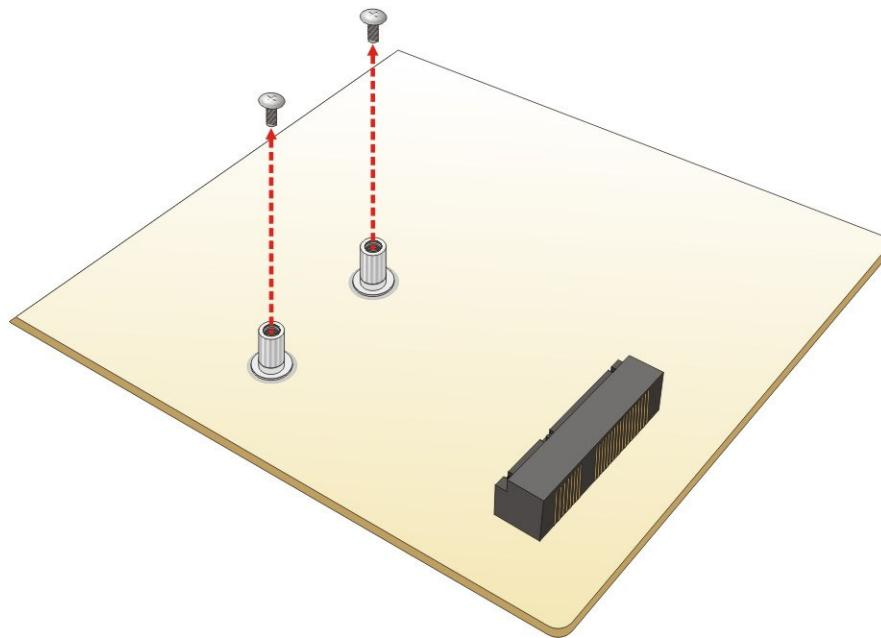

Figure 4-14: Removing the Retention Screws
Step 2: Remove the retention screws. Remove the retention screws as shown in **Figure 4-14**.